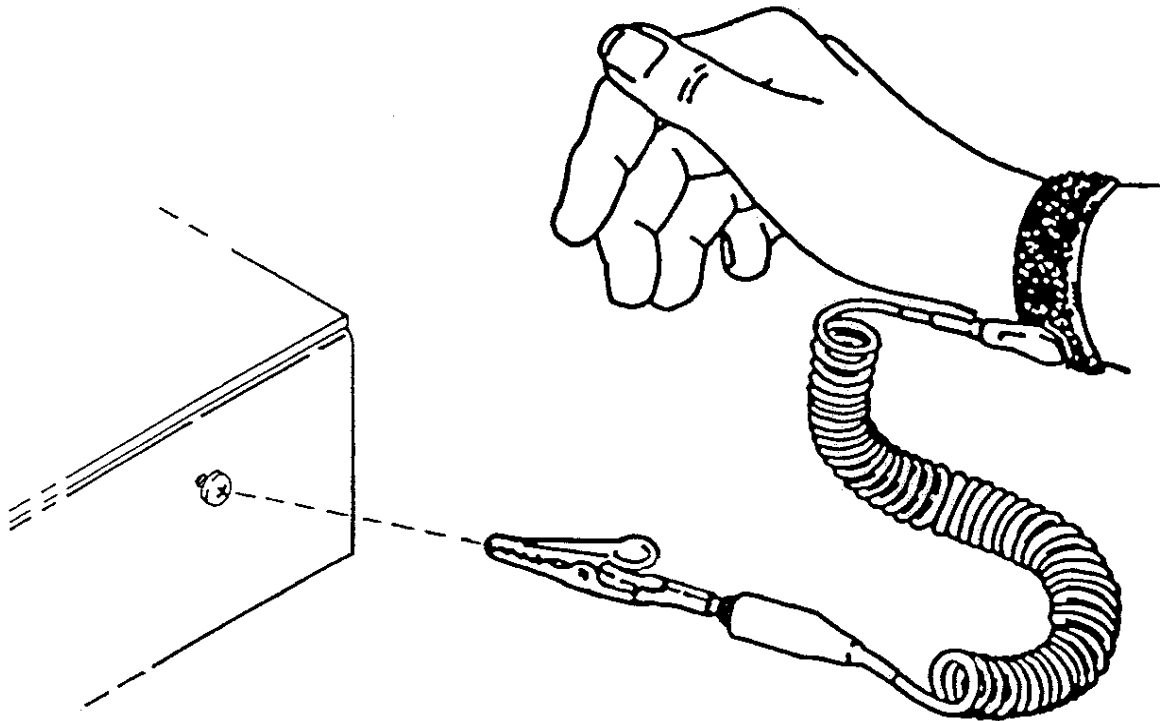

Fig. 2 - Anti-Static Chassis Ground Screw Connection
3.01 It is recommended that a means of static grounding to the announcer chassis be used to prevent accidental damage to static sensitive parts (refer figure 2).